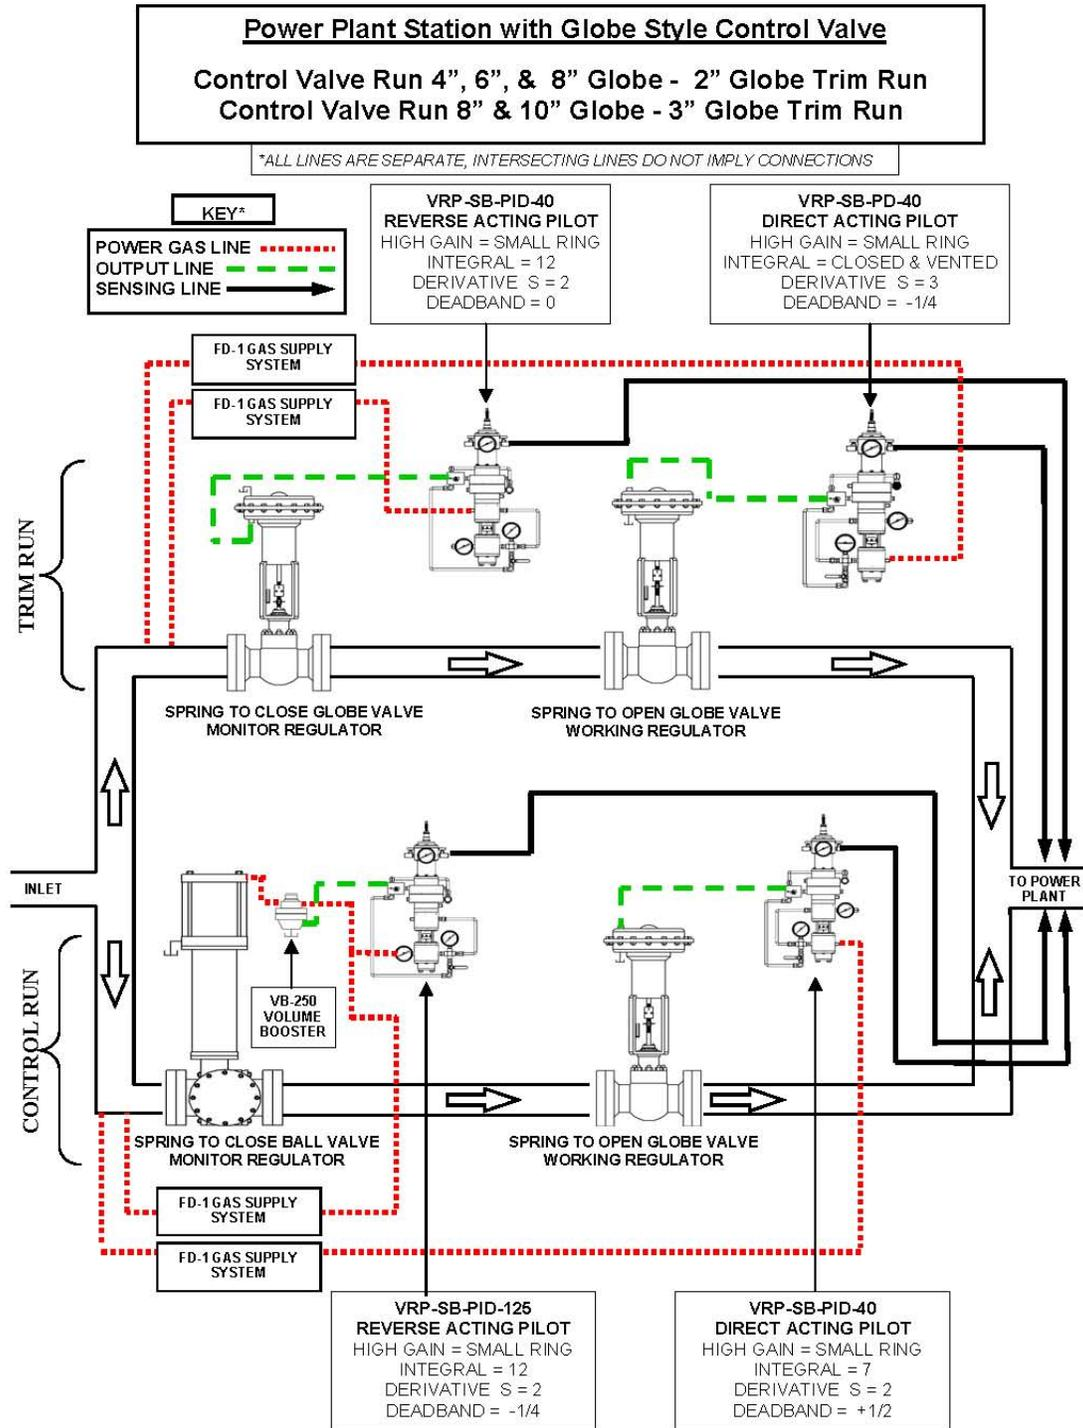

Fig. 3
- **Globe Valve / Globe Valve** – As the picture shows below, this design has a Main Run Globe Valve Worker with Ball Valve Monitor. The Trim Run has a Globe Valve worker and ball or globe valve monitor set. (See the P&ID on the following pages for detail - Fig 3).